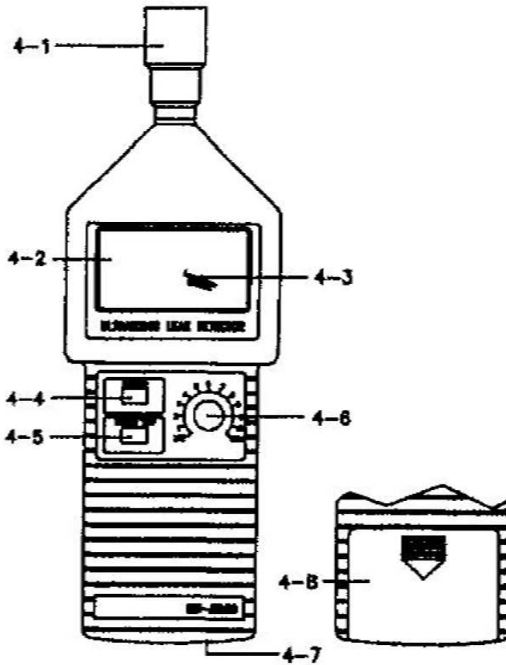

Figure 1
- (1) Plug in the optional earphone into the "Earphone Jack" (4-7, Fig. 1) to enhance detection ability.
- (2) Press the "**Battery Test Button**"(4-5, Fig. 1) to check the battery level. The LED display panel will light in "**BAT OK**" position if it is adequately powered, otherwise, the battery should be replaced.
- (3) Press and hold the "**Power Button**"(4-4, Fig. 1) during the whole measuring period.
- (4) Set the "**Sensitivity Setting Dial**"(4-6, Fig. 1) to the "**HIGH**" position. (Note: The "**Power Button**" is still held down.
- (5) Approach the object under test from different angles and to different positions. The level of the audible tone and the level of the LED display panel will change in this process.
- (6) Try to locate a point or an area where the audible tone is louder and the level of the LED display panel shows the maximum.
- (7) Change the "**Sensitivity Setting Dial**"(4-6, Fig. 1) to a lower setting. Repeat step (6).
- (8) Repeat steps (6) and (7) until the leaking source is located.
Press and hold the "Power Button"(4-4, Fig. 1) during battery level. The LED display panel will lit in "BAT. OK" position if it is adequately powered, otherwise, the battery should be replaced.
(2) Open the Battery Cover (4-8, Fig 1) at the back of tester and remove the battery. Replace with a 9V battery (heavy duty) or equivalent and reinstall the cover.